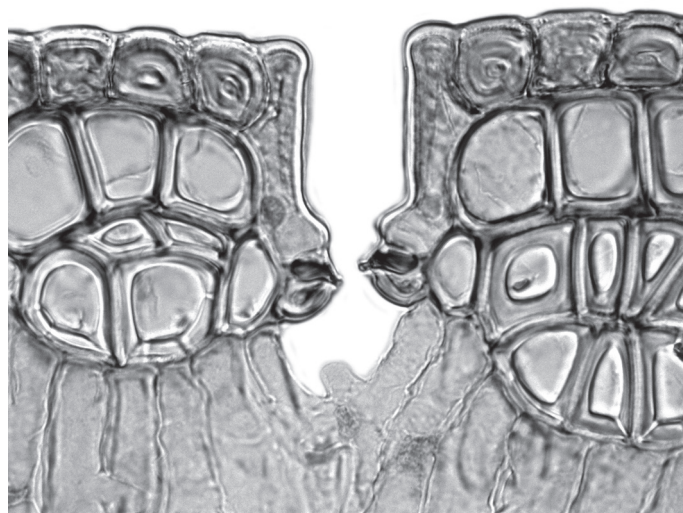
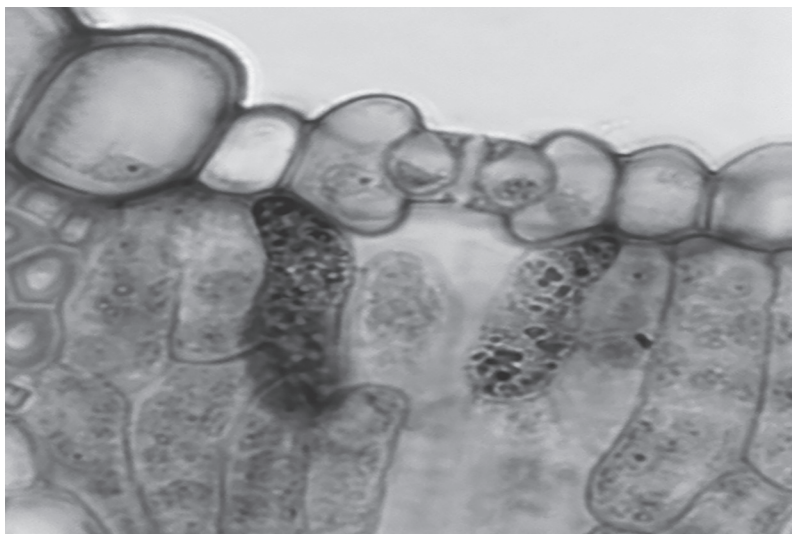

Fig. 2.3
Fig. 2.4
- (iii) Fig. 2.3 and Fig. 2.4 are photomicrographs of sections through the leaf surface of two different plants.
The photomicrographs in Fig. 2.3 and Fig. 2.4 have the same magnification.
Identify **three** observable differences between the leaf section shown in Fig. 2.3 and the leaf section shown in Fig. 2.4.
(iv) Suggest the environment where the plant shown in Fig. 2.3 has grown.